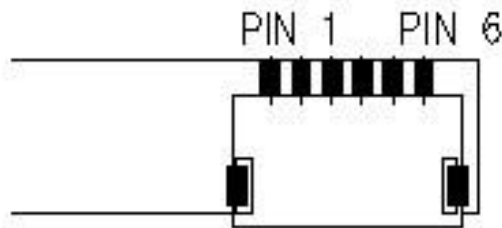

Figure1. Top View of LED Bar Connector
2. Contrast measurements shall be made at viewing angle of $\theta= 0^\circ$ and at the center of the LCD surface. Luminance shall be measured with all pixels in the view field set first to white, then to the dark (black) state. (See FIGURE 1 shown in Appendix) Luminance Contrast Ratio (CR) is defined mathematically.